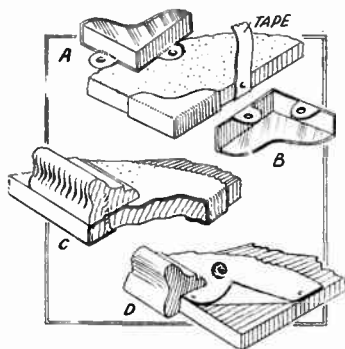

Fig. 1—Details of corners and types of edging
In the fourth method the moulding is solid and not worked with a rebate. The board is covered with the baize, the edges being also covered with the baize and brought underneath the board and tacked from the back, see Fig. 1 (C). This gives a very simple and strong board, but as the moulding is a little deep, it may not be suitable for all cases. It certainly stiffens the main backing board, which, if of rather large measurements, is of a de-
of green baize, cut 1in. larger all round than the board itself and nailed at the back with small tacks. The corners of the baize should be cut across, lapped and nailed and four nickel-plated mirror clips screwed to the back, as Fig. 1.